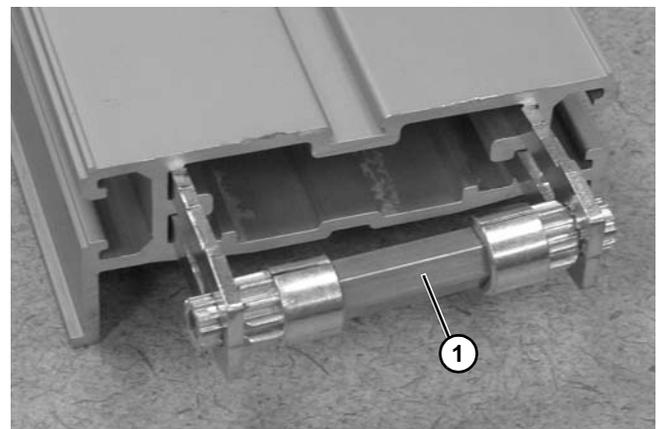

Figure 149
7. Insert pinion assembly (**Figure 149, item 1**) into conveyor frame.